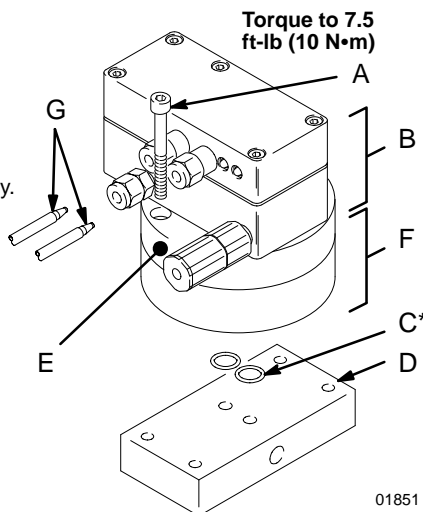
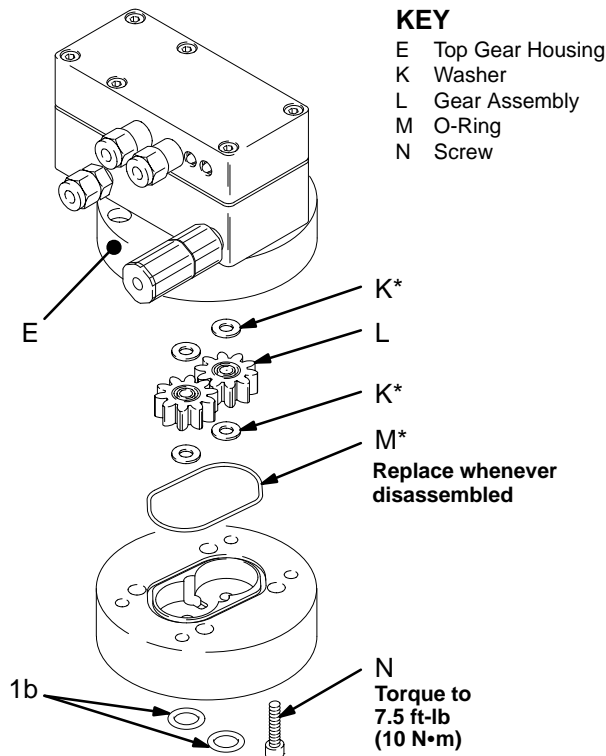

Fig. 3 Replacing the Turbine Alternator
Fig. 5
2. Disconnect the fiber optic cable(s) (G) from the electronic module (B). See Fig. 3.
4. Remove the four screws (A) to separate the gear housing (F) from the manifold.
1. Loosen the four screws (N). See Fig. 5. Leave about two threads connected.
2. The two halves of the gear housing are pegged together and will be difficult to separate. The pegs are part of the top gear housing (E).
3. Install the o-ring (M*), washers (K*), and gear assemblies (L*). Be sure to install the gears on their proper pegs. See Fig. 5.
4. Press the gear housings together and secure them with the four screws (N). Torque the screws to 7.5 ft-lbs (10 N•m).
When installing the screws (A), replace the meter's two o-rings (C*) with the o-rings from the kit. Torque screws to 7.5 ft-lbs (10 N•m). See Fig. 3.
| C | O-RINGS, (not shown, See Fig. 3) | 2 or 4 |